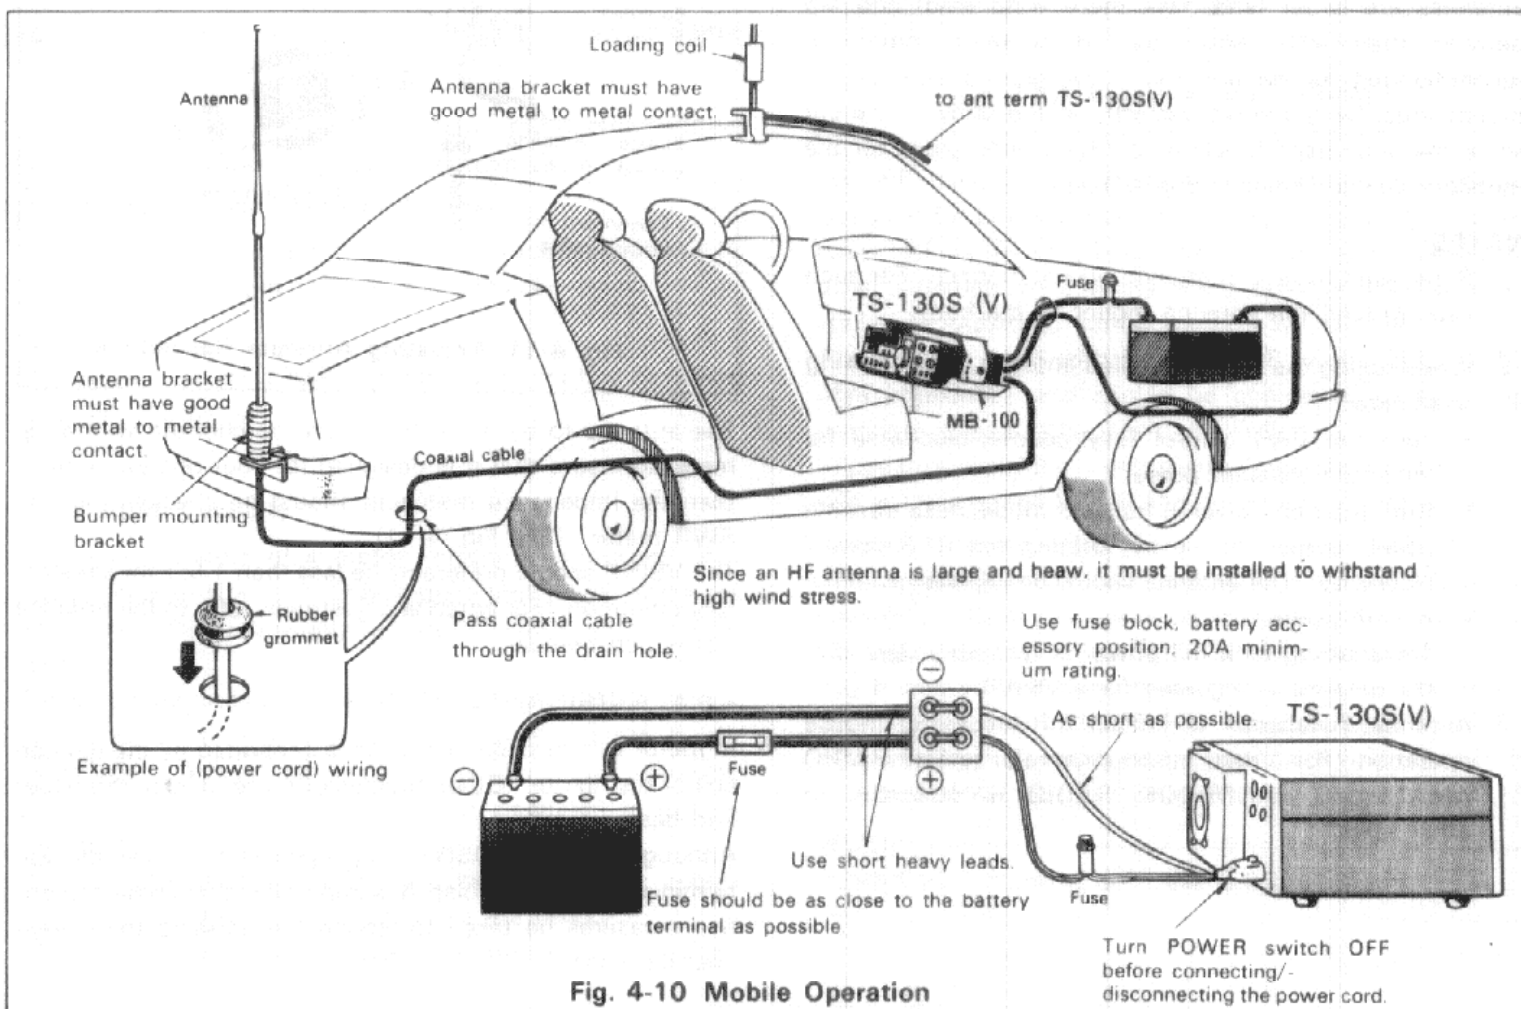

Fig. 4-10 Mobile Operation
4.8 MOBILE OPERATION (Fig. 4-10)
4.8.1. TS-130S(V) INSTALLATION
Secure the TS-130S(V) under the dashboard using an optional MB-100 mounting bracket as shown in Fig. 4-10. As an alternative, use strapping, making sure that the TS-130S(V) will not slip out of place while driving the vehicle.
Use a rugged mount for the mobile antenna because HF antennas are larger (and have more wind load) and are heavier than VHF antennas. A bumper mount is recommended for general use. The ground side of the mount must be grounded perfectly to the body of the car since the body itself functions as the ground plane for the mobile antenna. (Refer to Fig. 4-10.)
(2) Coaxial Cable Connection (Fig. 4-10)